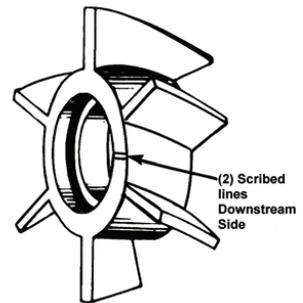

Figure 4: Scribed lines
- Inspect rotor for markings as shown in *Figure 4* to indicate flow direction before assembly.